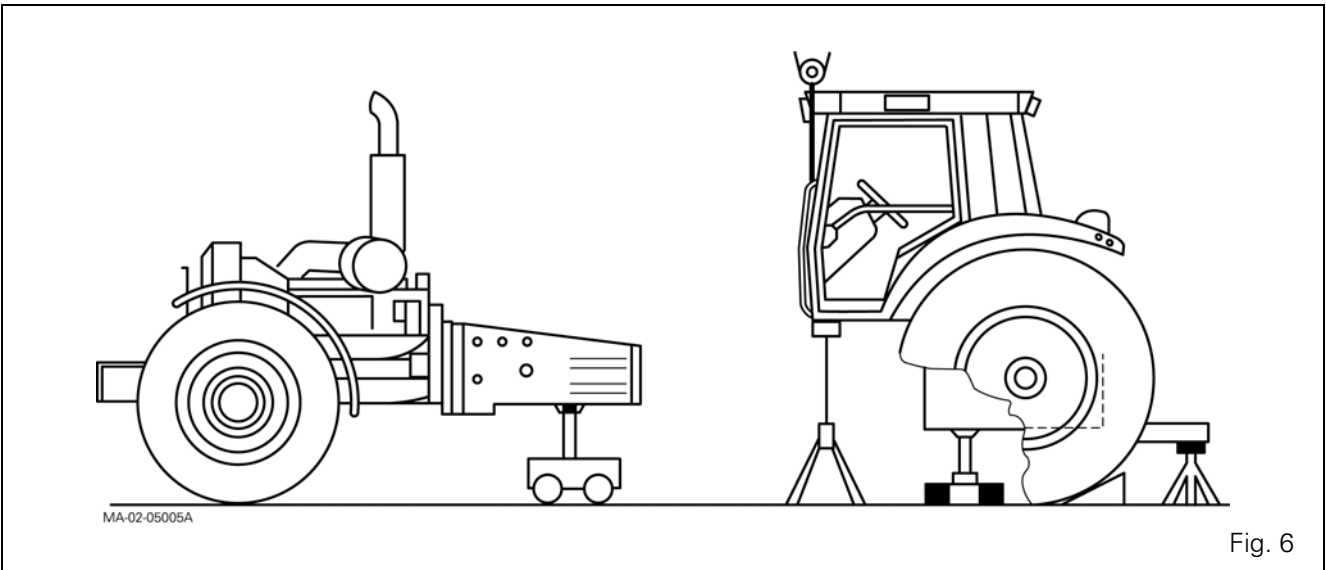

Fig. 6
20. Install (Fig. 6):
25. Assisted by an operator, separate the assemblies (Fig. 6).
26. Hold the cab still using suitable axle stands positioned under the right and left-hand supports (Fig. 6).